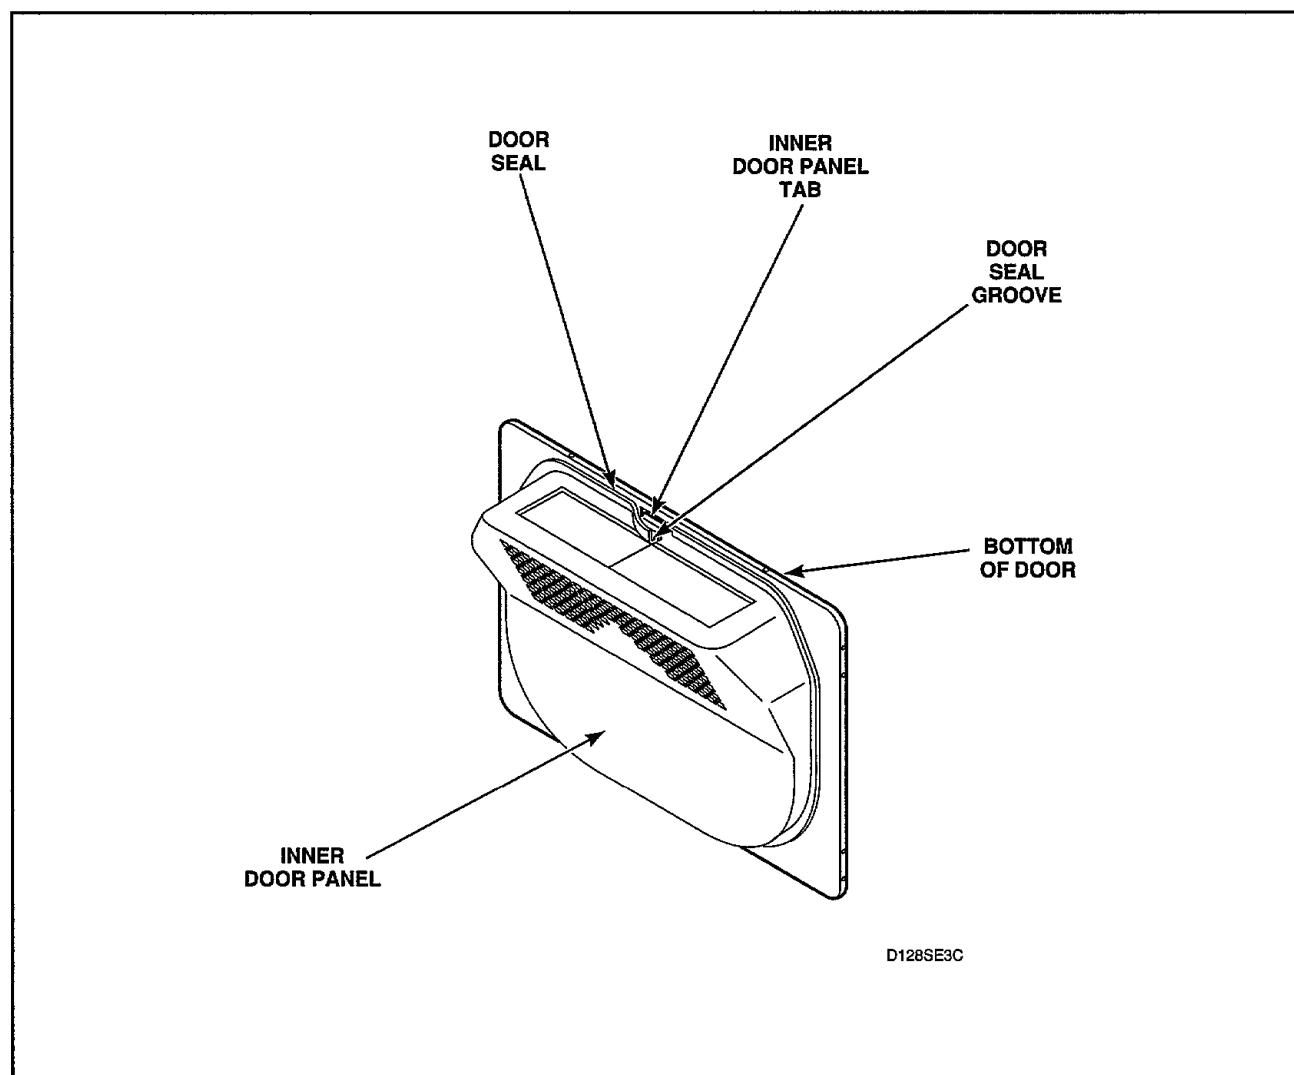

Figure 28
- Grasp either end of door seal at bottom of door and remove seal from tabs on inner door panel, *Figure 28*.
NOTE: When replacing seal, make sure seal is not stretched or distorted and the groove in the seal is installed on each tab on inner door panel, *Figure 28*, and the split in the seal is at the bottom of the door.